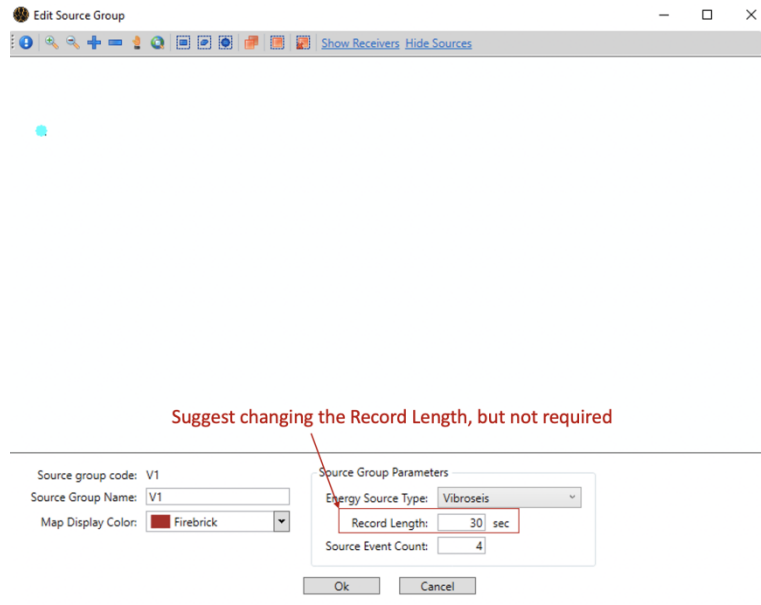

Figure 2-11 Source Group suggested settings accessed from the ‘Source Group and Params’ similarly to the receiver settings (see Fig 2-9 and 2-10).
- This is also shown in Figure 2-11.